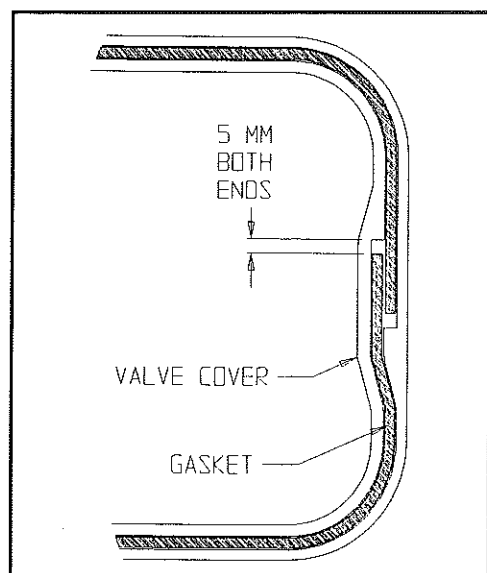

Fig. 4
1. Install new *Jacobs* valve cover gasket into the groove in each cover. Overlap the gasket about 1.0 in. (25.4 mm) and cut to appropriate length. Be sure there is a gap at each end of gasket. See Fig. 4.